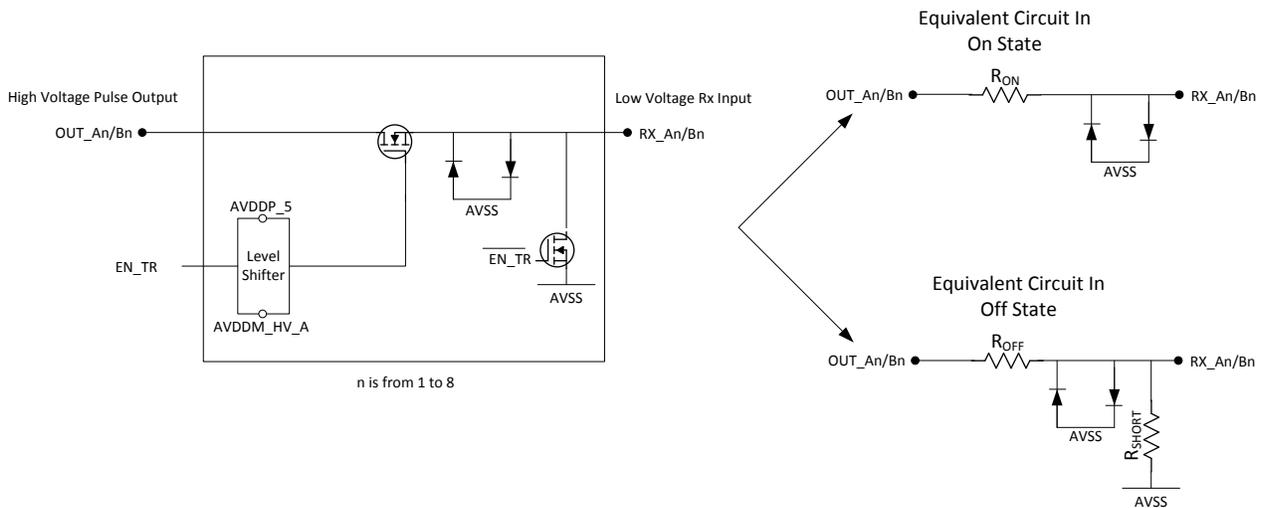

Figure 46. Simplified Schematic of T/R Switch
- A simplified schematic of the T/R switch is shown in Figure 46. T/R switch turns on when EN_TR is set to logic level '1', and turns off when EN_TR is set to logic level '0'. It consists of a series transistor which remain off when T/R switch is off and protects the low voltage Rx from high voltage pulses. This series transistor turns on when the T/R switch is on and connects the Rx input to the ultrasound transducer. On the low voltage Rx input side, there exists a transistor to AVSS which turns On when the T/R switch is Off. It helps in reducing a T/R switch leakage in transmission phase. T/R switch equivalent diagram in On and Off state is
also shown in Figure 46.